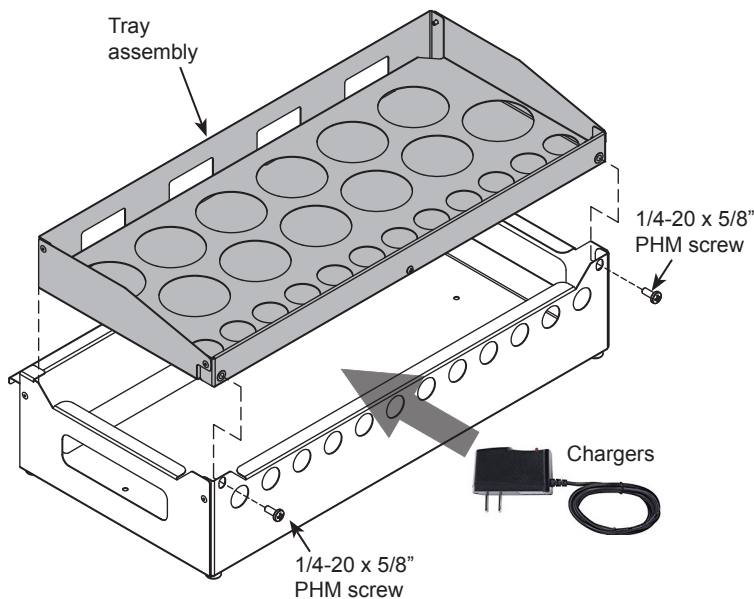

Figure 1
1. Remove the (2) 1/4-20 x 5/8" PHM screws and remove the tray assembly. **Figure 1.**